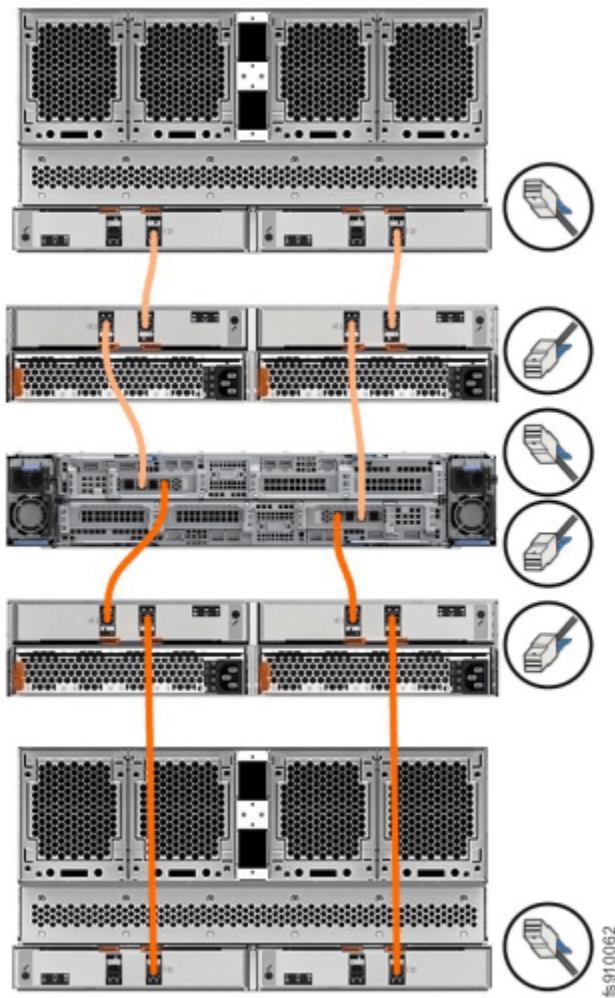

Figure 61. Connecting the SAS cables to control enclosure
- The FlashSystem models support 4-port SAS interface adapters. However, only ports 1 and 3 are used for SAS connections, as Figure 61 on page 101 shows.
- See “Enclosure location guidelines” on page 57 for the number and type of expansion enclosures that can be chained to SAS port 1 and SAS port 3 of a node canister. The expansion enclosures in this chain must be installed below the control enclosure (as shown in Figure 61 on page 101).
- Figure 61 on page 101 shows an example configuration of a control enclosure that is connected to two SAS chains.
- Figure 61 on page 101 is a generic cabling diagram intended to illustrate how to cable the different types of expansion enclosure. Some systems do not allow for a mixture of expansion enclosure types in the same chain. See Chapter 4, “Expansion enclosures,” on page 41 for details on the supported expansion enclosures for your specific system model.
Using the supplied SAS cables, connect the control enclosure to the expansion enclosure at rack position 1, as shown in Figure 61 on page 101.
To add further expansion enclosures, continue to connect the expansion canisters as shown in Figure 61 on page 101.